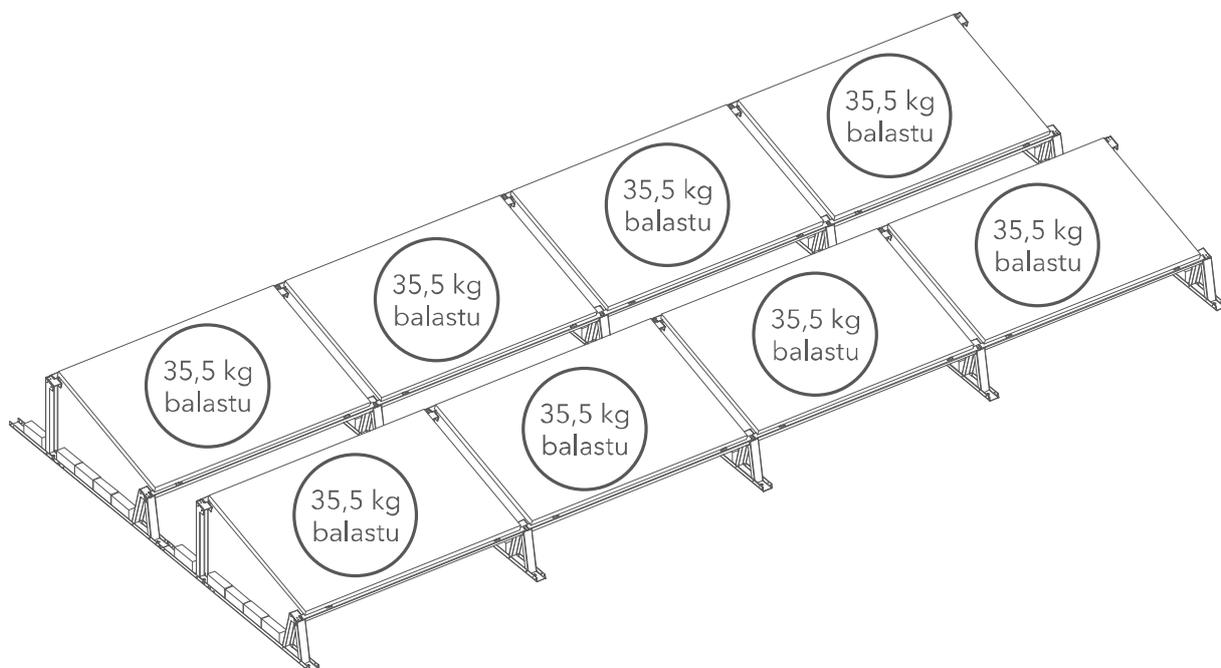

Fig. 9. distribution of the ballast on two rows of photovoltaic panels.
- 8** If there are two rows of photovoltaic panels, the weight of the ballast is per panel is 35.5 kg (Fig. 9).